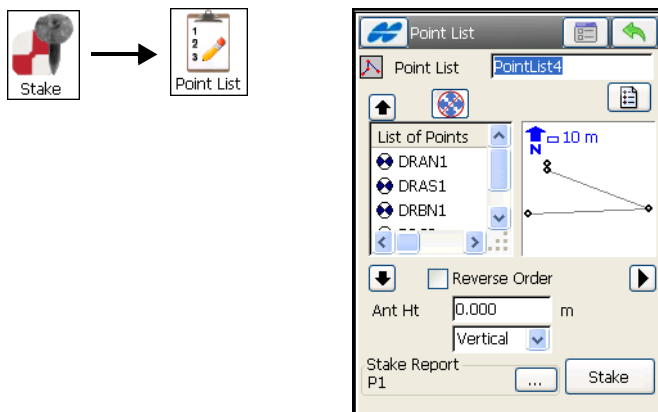

Figure 9-19. Stakeout Point List
1. To stake out points in a point list, tap **Stake ► Point List** (Figure 9-19).
- To perform a stakeout, starting from the end of the Point List, check and enable the *Reverse Order* box. Use the arrow buttons to modify stakeout order. Then tap the **Stakeout** button (Figure 9-19 on page 9-14).